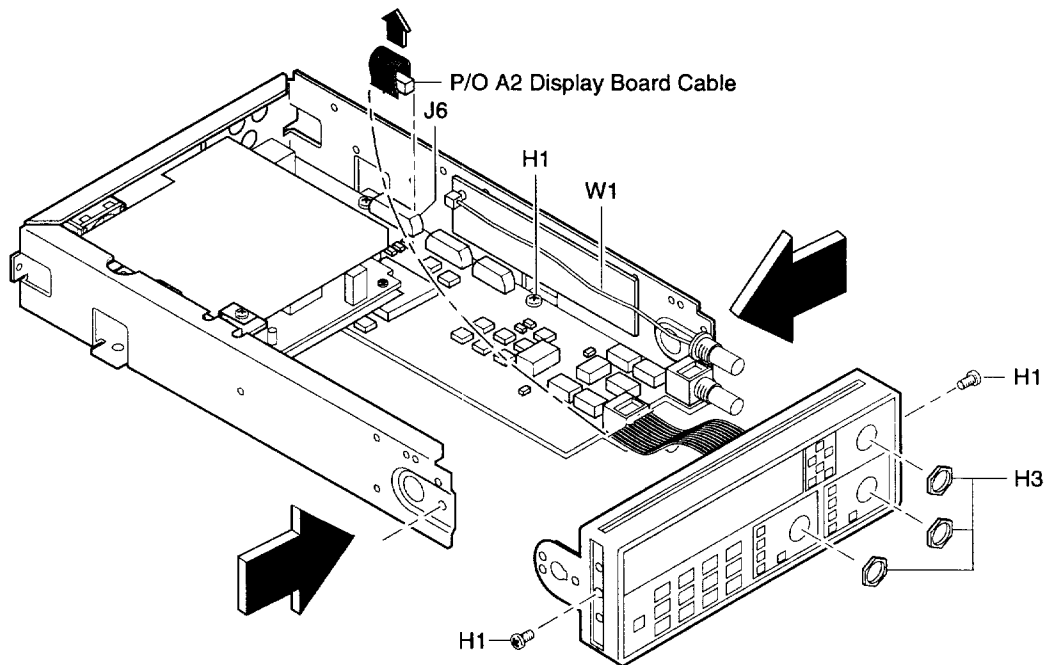

Figure 3-5. Front Bezel Removal
- 4 Disconnect the front bezel flat-ribbon cable (which is actually A2 Display Board's cable) from J6 of A1 Motherboard Assembly as shown in Figure 3-5.**
- 5 Remove the BNC nuts (H3), shown in Figure 3-5, from the front panel using the 14-mm deep-socket spin tight.**
- 6 For Counters with the optional 1.5 GHz or 3.0 GHz channel (Option 015 or 030), pull cable W1 out of the front bezel as shown in Figure 3-5. For the optional 5 GHz channel, remove knurled nut.**
- 7 Remove the screws (H1), located in the sides of the front bezel, using the TORX 15 screwdriver as shown in Figure 3-5.**
- 8 Loosen the screw (H1), shown in Figure 3-5, that helps secure A1 Motherboard Assembly to the chassis to make step 9 (the following step) easier.**